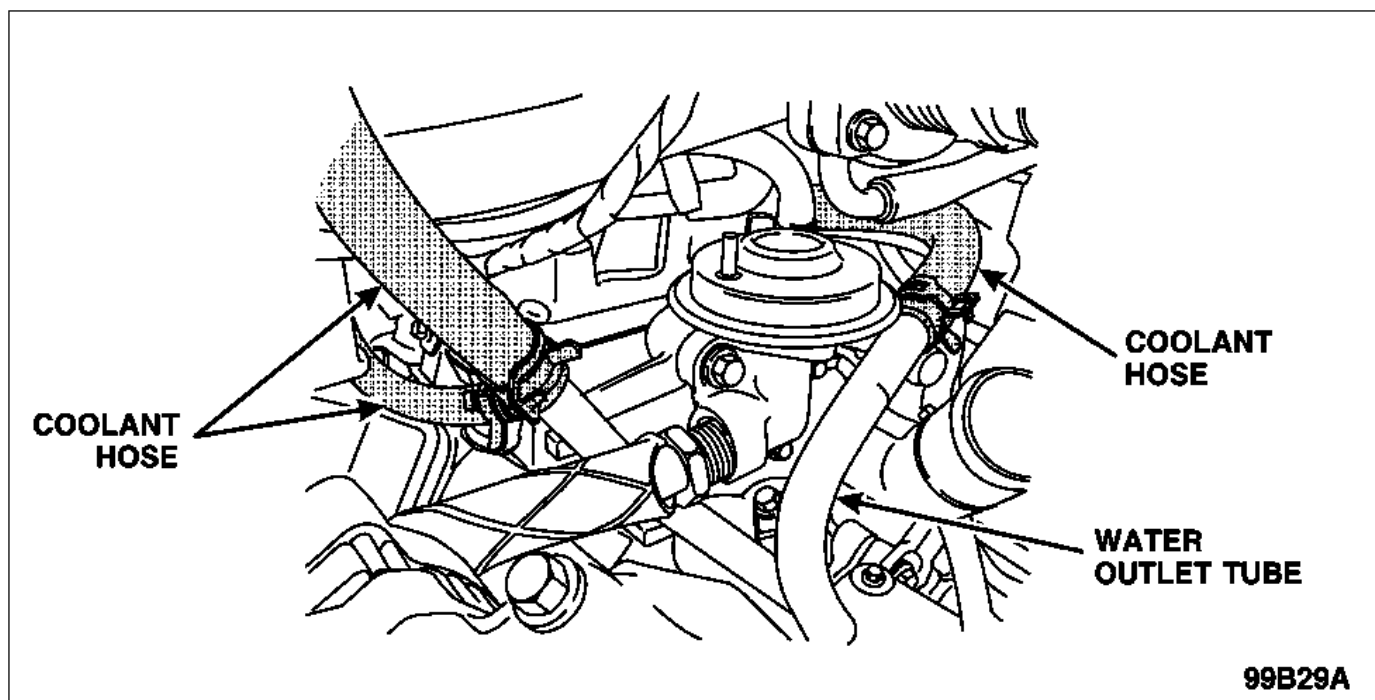

FIGURE 1
20. Disconnect the three (3) coolant hoses shown in Figure 1, from the water outlet tube.